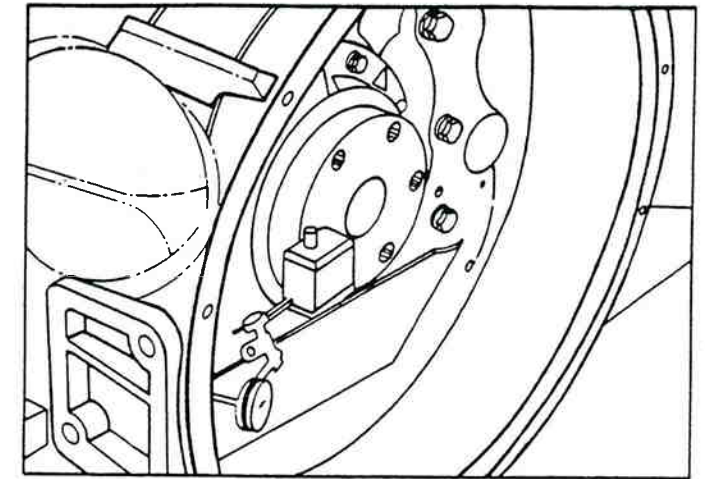

Figure 5-29. Flywheel Housing Face Runout.
3. Now move gauge stylus to contact face of engine flywheel housing (figure 5-29). Rotate flywheel and mark high and low points. Total runout should not exceed .008" (.203 mm).